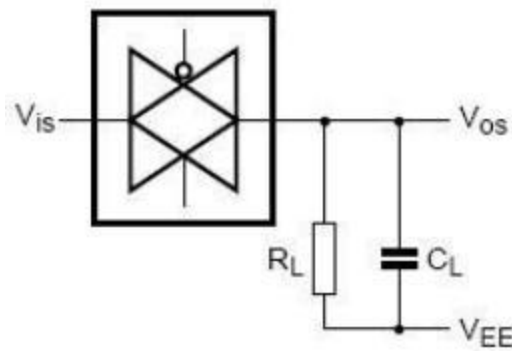

Figure 9. Square wave distortion degree of cut-off frequency and conduction frequency test pattern
- [3]  $R_L=1k\Omega$ ;  $C_L=5pF$ , channel off,  $20\log V_{os}/V_{is}=-50dB$ , see Figure 9.
- [4]  $R_L=1k\Omega$ ;  $C_L=5pF$ , channel on,  $20\log V_{os}/V_{is}=-3dB$ , see Figure 9.